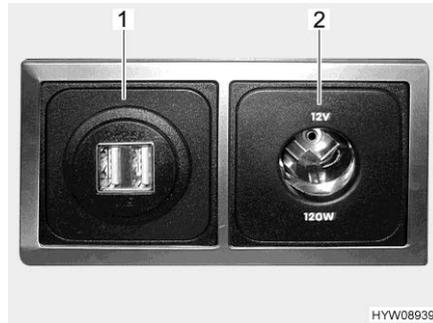
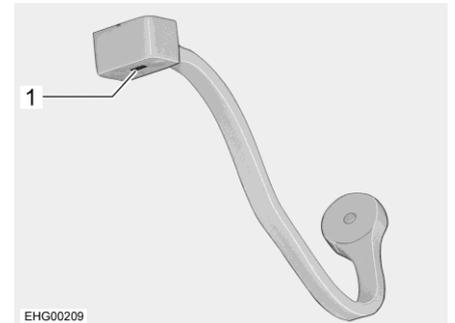

Fig. 123 USB and 12 V socket
Fig. 124 USB socket on gooseneck lamp
**USB socket** Through the USB sockets (Fig. 123,1 and Fig. 124,1), the batteries of appliances can be charged with a charging current of up to 2.5 A.
**12 V socket** Appliances with a power consumption of up to 10 A (equivalent to a power of 120 W) can be connected to the 12 V sockets (Fig. 123,2).